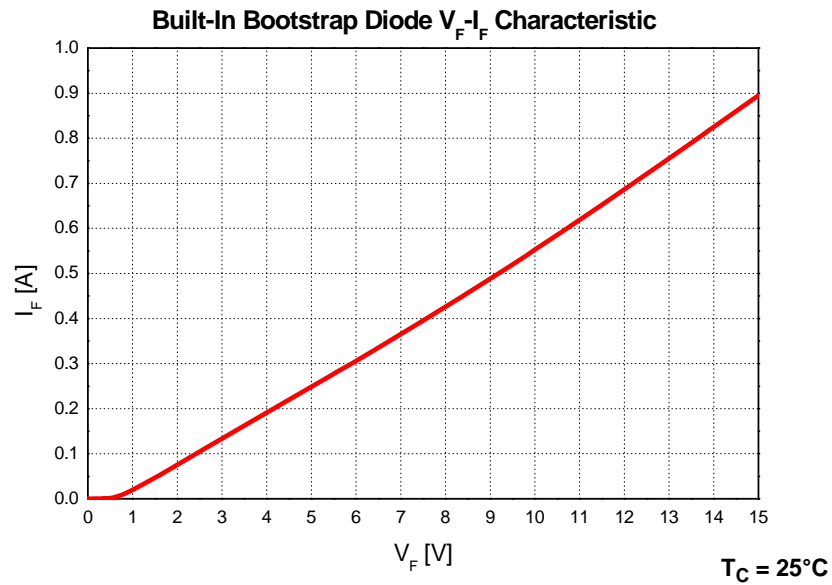

Figure 2. Built-In Bootstrap Diode Characteristics (Typical)
- Built-in bootstrap diode includes around $15\ \Omega$ resistance characteristic. Please refer to Figure 2.